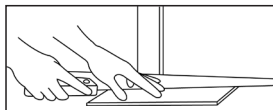

Figure 4
- Undercut door casings and jambs. Remove any existing base, shoe molding or doorway thresholds. These items can be replaced after installation. All door casings and jambs should be undercut to avoid difficult scribe cuts (Figure 4).